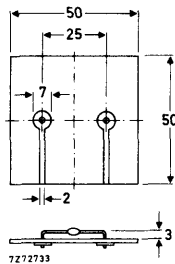

Fig. 2.
2. Thermal resistance from junction to ambient when mounted on a 1,5 mm thick epoxy-glass printed-circuit board; Cu-thickness ≥ 40 μ m; Fig. 2